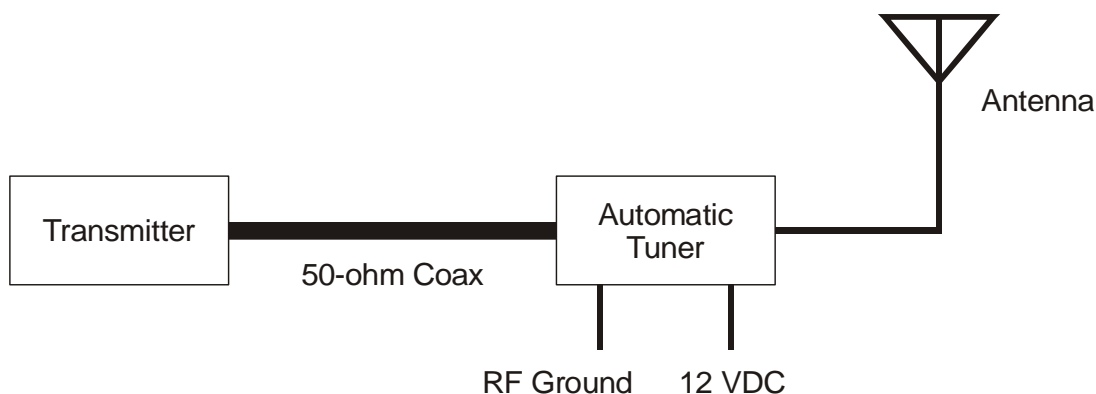

Figure 1. Installation Block Diagram.
2. Connect the tuner to the transmitter with 50-ohm coaxial cable (such as RG-8/U). See Figure 1 on page 3.